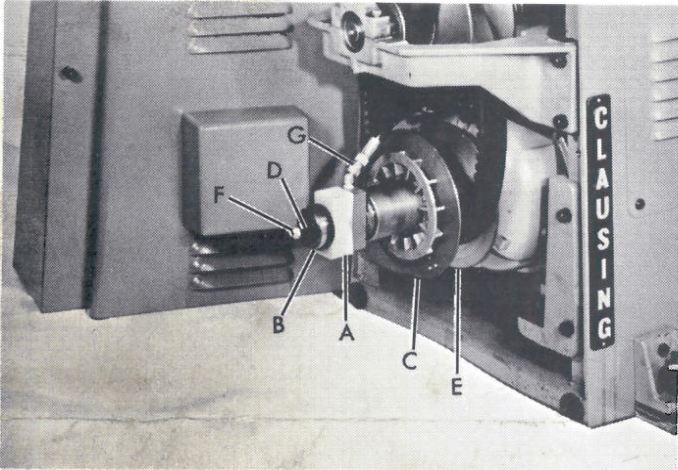

FIGURE 6
- Hold variable pulley (C, fig. 6) so it will not rotate. Turn locknut (F) until approximately 1/8" of shaft (D) extends beyond locknut.
- Start fitting (G) onto elbow.
- Hold variable pulley (C, fig. 6) so it will not rotate. Turn locknut (F) - clockwise if speed is too low, counterclockwise if speed is too high.